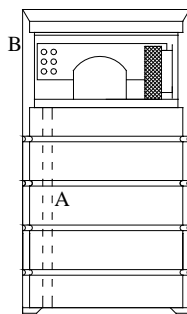

Fig. 2.3c
- Pull the connection cable through the cable tubes which run through the enclosure(A in Fig.2.3c).
- Pull the cable through the cable glands (B in fig.2.3c) on the separation plate between the cool shaft and electronic compartment. Strip the cables long enough to reach the terminal.